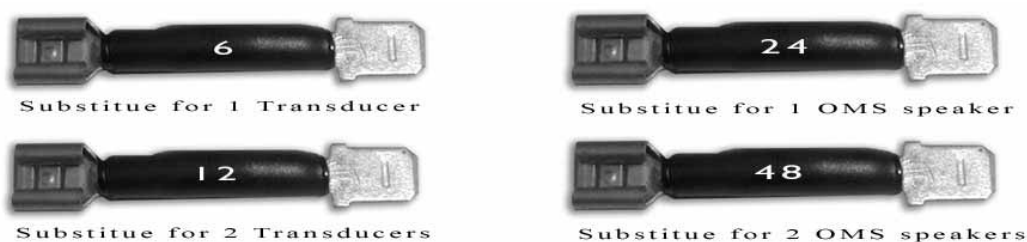

Figure 10
- When there are not the correct number of transducers to achieve a proper power level, use resistive attenuators (figure 10) provided by Research Electronics to divide the power down to 1/2 Power and 1/3 Power. Example: 1/3 power is needed but there are only two transducers. Use a 6-ohm resistive attenuator in series with the two transducers to achieve 1/3 Power.